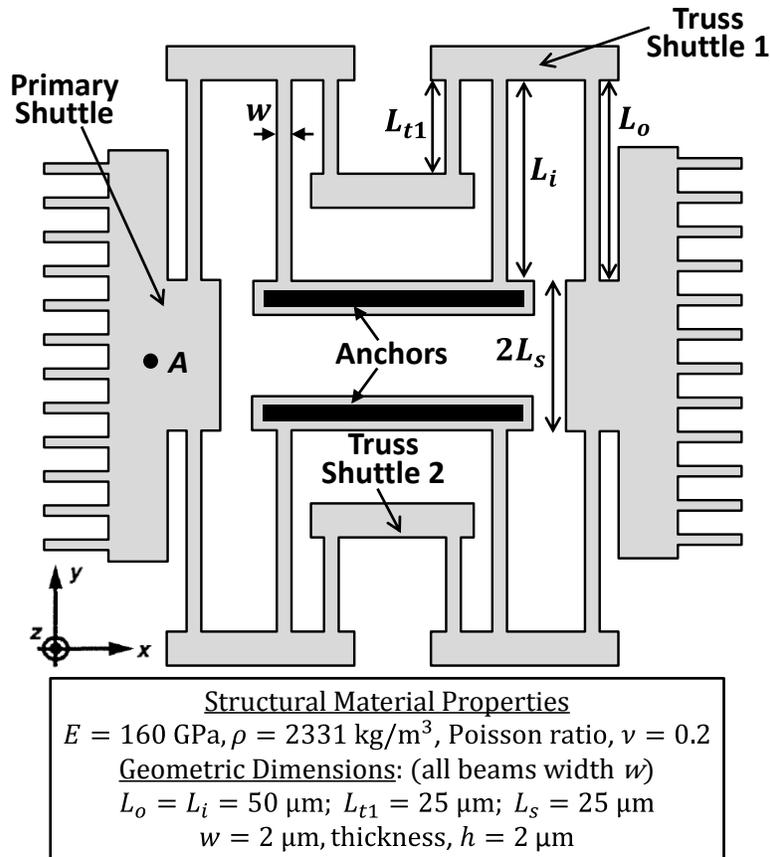

Fig. PS5.3-1
3. Fig. PS5.3-1 presents the top view of a micromechanical device constructed in a $2 \mu\text{m}$ -thick structural layer using the following two-mask surface micromachining process:
Data on the structural material used in this problem and on specific geometric dimensions are given in the box below, in Fig. PS5.3-1. For this problem, assume that all folding trusses and shuttles are rigid in all directions, including the vertical (i.e., z) direction. In addition, all suspension beam widths are $2 \mu\text{m}$. Assume room temperature is 25°C .